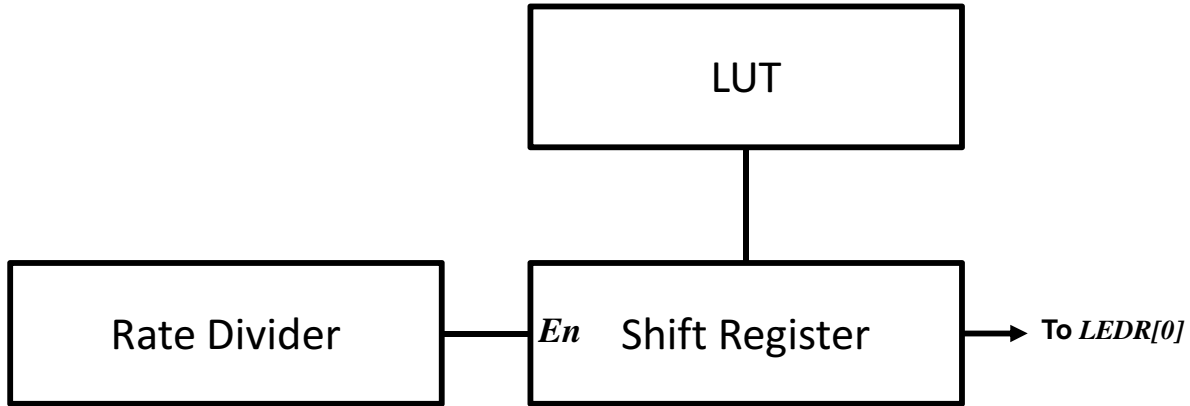

Figure 4: Block diagram of the Morse code circuit
A high-level block diagram of the circuit you are building is shown in Figure 4. Note that various details/connections are not shown there.
2. Design your circuit by first drawing a schematic of the circuit. Think and work through your schematic to make sure that it will work according to your understanding. You can use Figure 4 as your starting point. You should include the schematic in your prelab. **(PRELAB)**